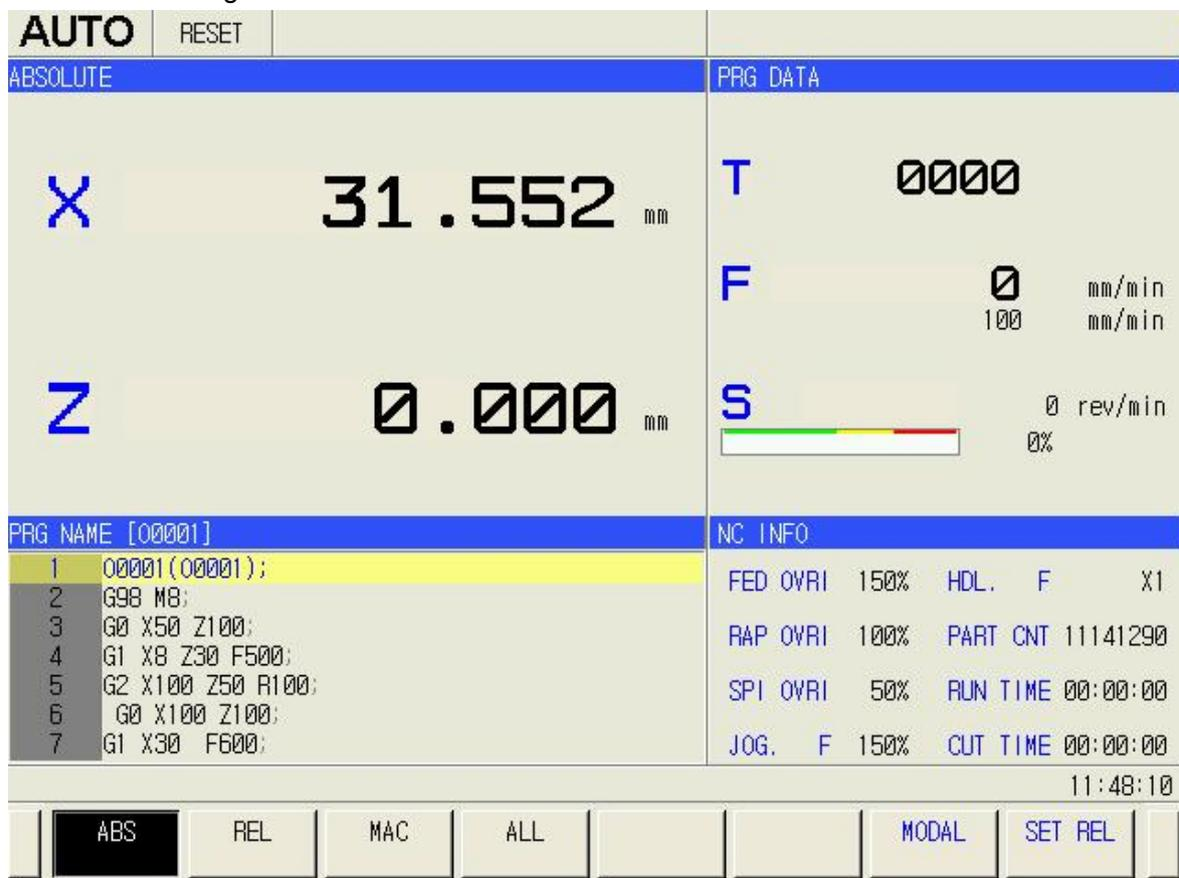

Fig. 6-2
(3) During resetting, press **LOAD**, the selected program is uploaded into the block area in the position window and it can be executed, the current window switches into the position window, which is shown in Fig.6-2: